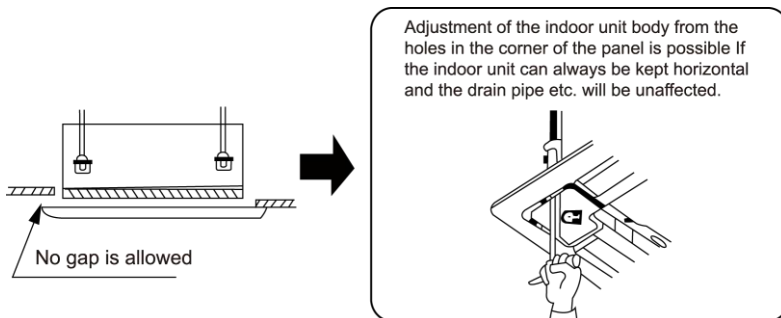

Fig. 4.33
- (3). If gap still exists between ceiling and decoration panel after tightening the screws, readjust the height of the indoor unit (Fig. 4.33).